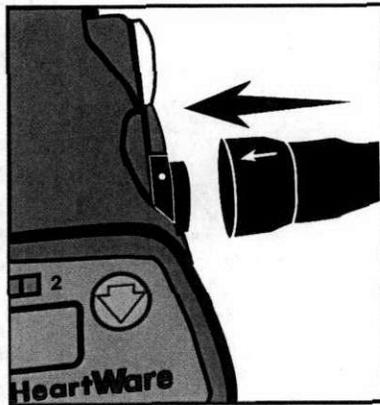

Figure 9: Connect Power Supply: Align White Arrow and White Dot
2. Line up the solid white arrow on the cable connector with the white dot on the controller (Figure 9).